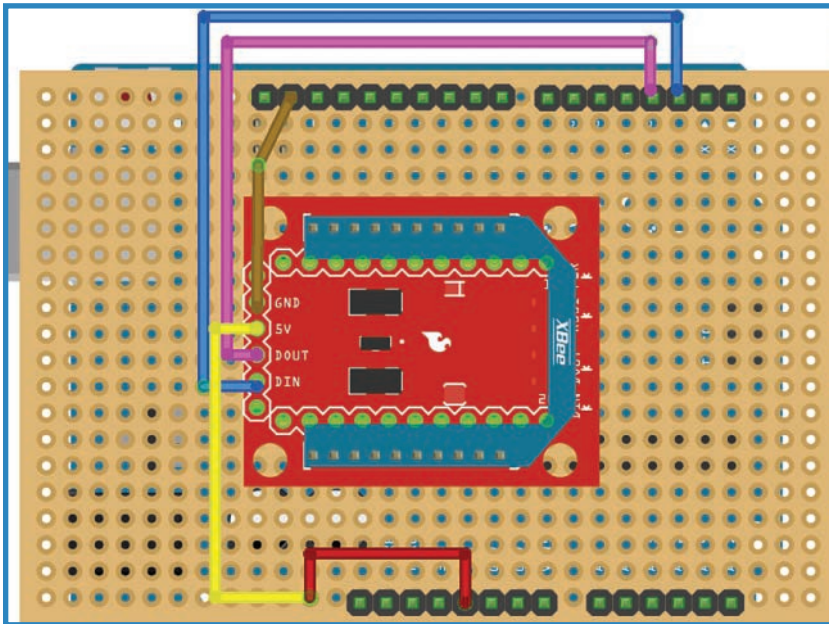

FIGURE 11.25 Add the XBee Explorer.
- b. Solder the XBee Explorer to the board and use wires to connect its pins to the appropriate Arduino pins, just as you did before. I used the same wire colors as before: Data out (the pink wire in Figure 11.25) goes to pin 3 of the Arduino, while data in (blue) connects to pin 2. Power (red) and ground (brown) connect to their respective pins on the Arduino.